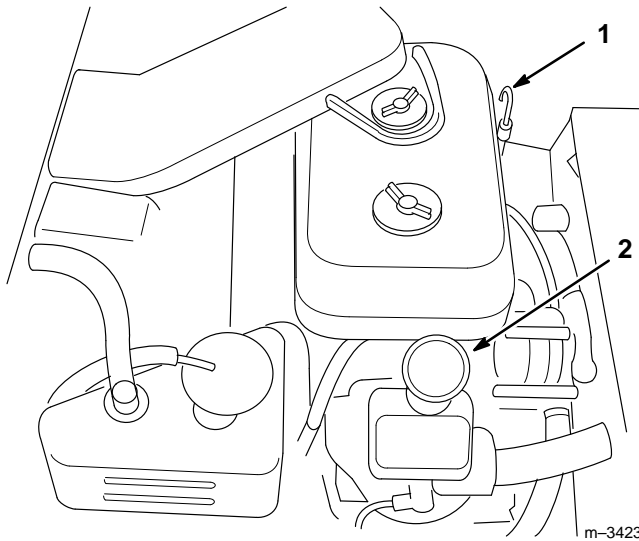

Figure 4
3. Clean around the oil dipstick (Fig. 4) so dirt cannot fall into the dipstick hole and damage the engine.